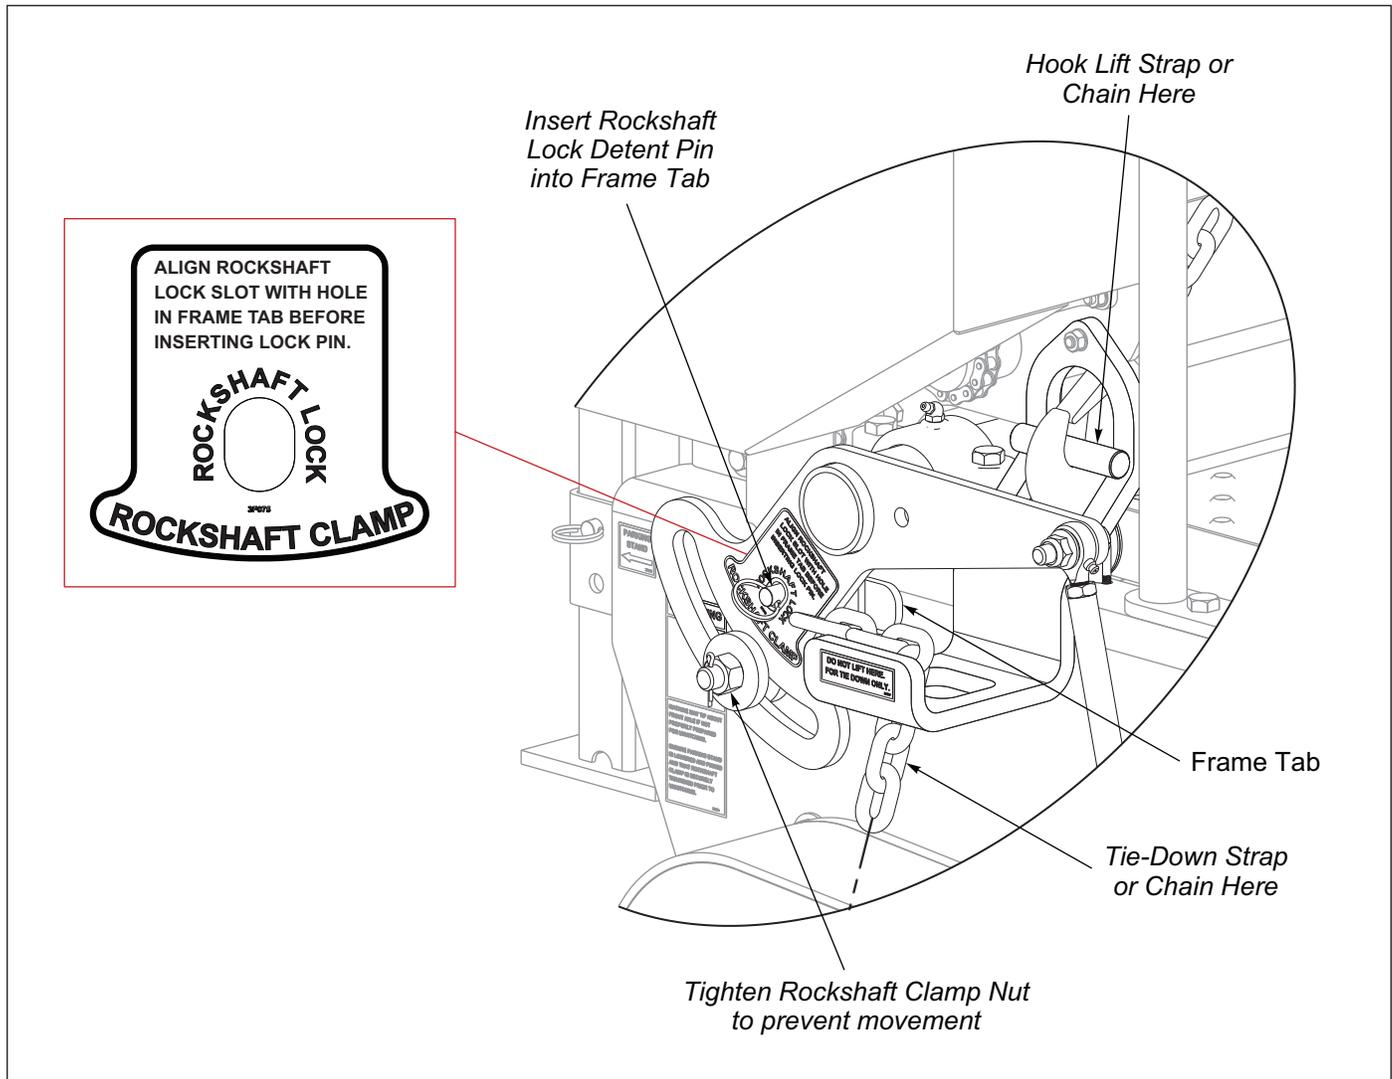

Figure 3-26: Lift and Tie-Down
3. Remove Rockshaft Detent Pin from storage and install. **See Figure 3-26.**